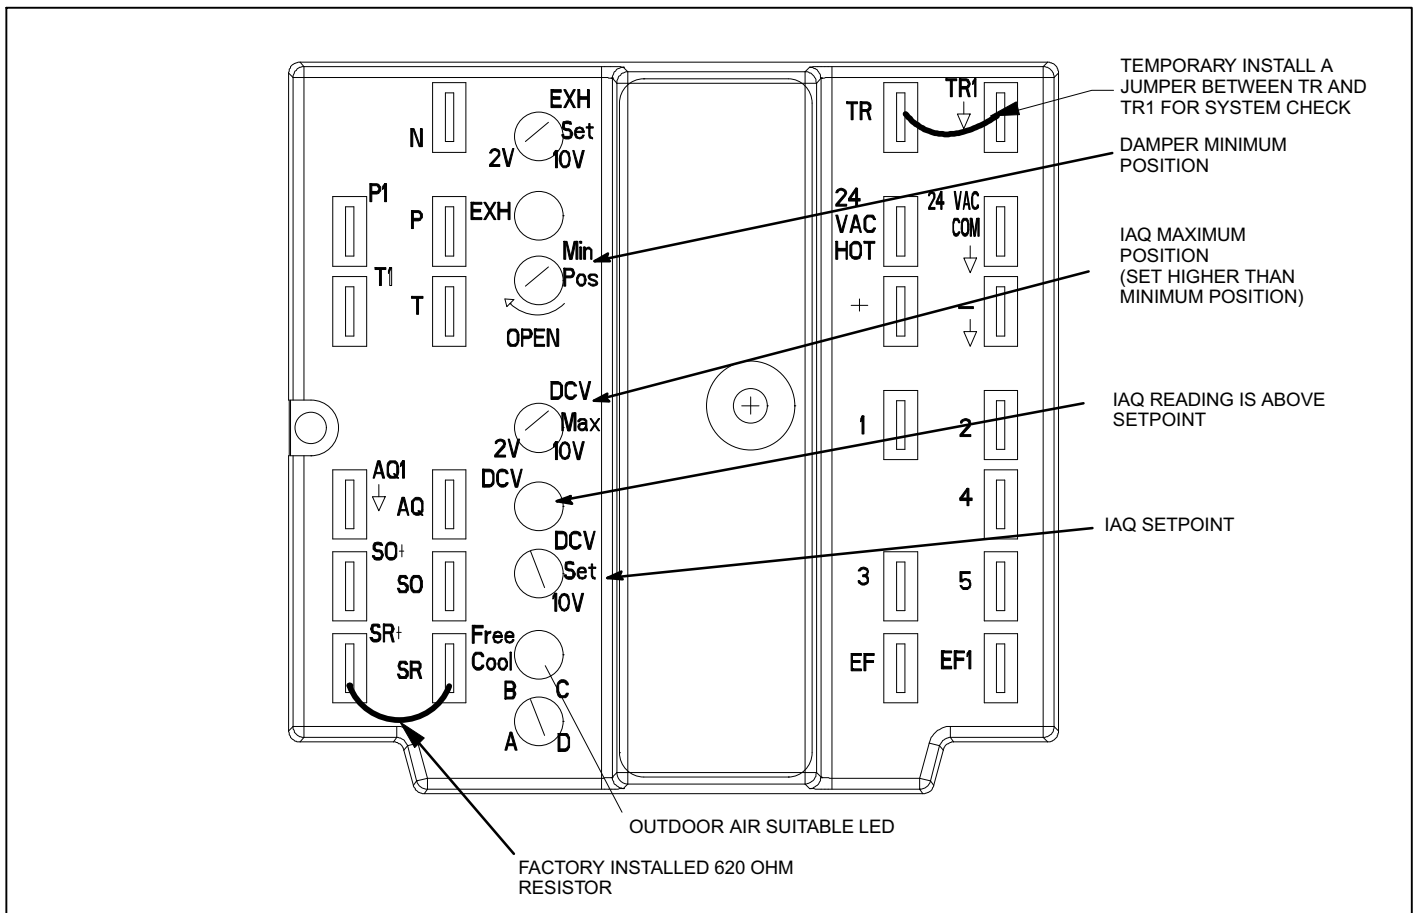

Figure 7. A6 Economizer Control
A steady green Free Cool LED indicates that outdoor air is suitable for free cooling. A steady green DCV LED indicates that the IAQ reading is higher than setpoint requiring more fresh air. See figure 7.
5. Install jumper on damper motor terminal TR and TR1 (figure 7).